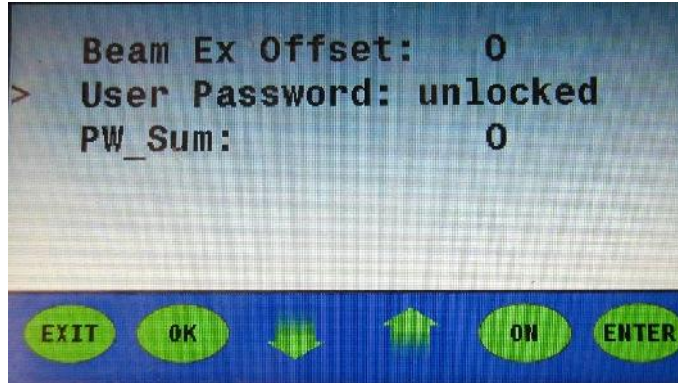

Figure 18
- Press “ENTER” to enter the password and return to “User Password: unlocked” on the menu list **(Figure18)**